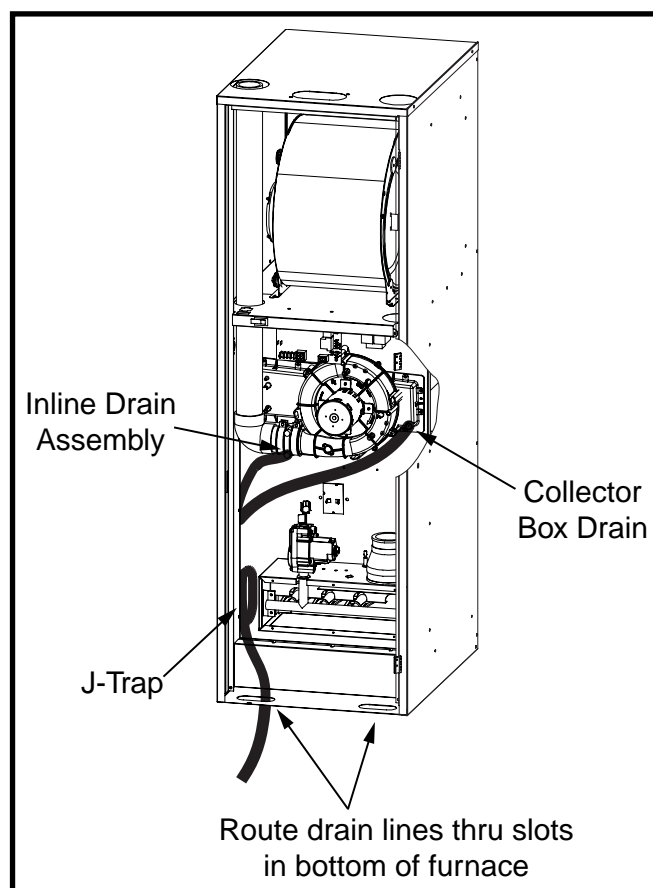

Figure 11. Condensate Drainage
The condensate drain may exit through the left or right slots in the bottom of the furnace (Figure 11). Make sure the flexible drain hose is not kinked.
1. Remove the collector box soft tube (Figure 11) and verify the exit from the collector box is clear of any debris or obstructions.